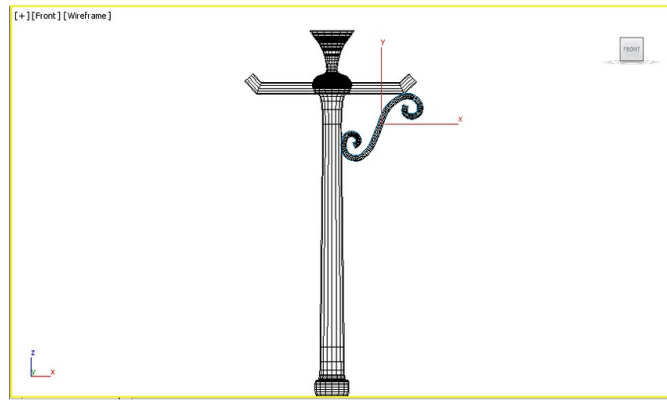

Figure 6-62 The design01 in the Front viewport
4. Choose the **Line** tool from the **Object Type** rollout. Next, in the **Creation Method** rollout, select the **Smooth** radio button from the **Initial Type** and **Drag Type** areas and create a line in the Front viewport, refer to Figure 6-62.
5. In the **Rendering** rollout, make sure the **Enable In Renderer**, **Enable In Viewport**, and **Radial** check boxes are selected. Next, enter **3.5** in the **Thickness** spinner. Next, name the line as *design01*. Figure 6-62 shows *design01* in the Front viewport.